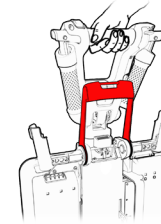

Figure 47
1. Make sure the handle bar is secured at an upright position (see Figure 47).